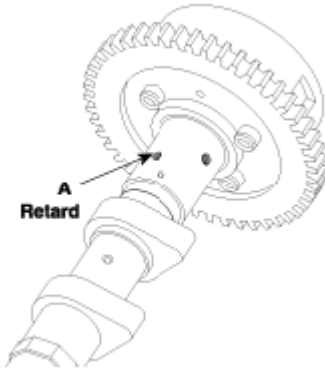

Fig. 34: Applying Vinyl Tape To Retard Hole Except For One Indicated By Arrow
2. Apply vinyl tape to the retard hole except the one indicated by the arrow in **Fig. 34**.